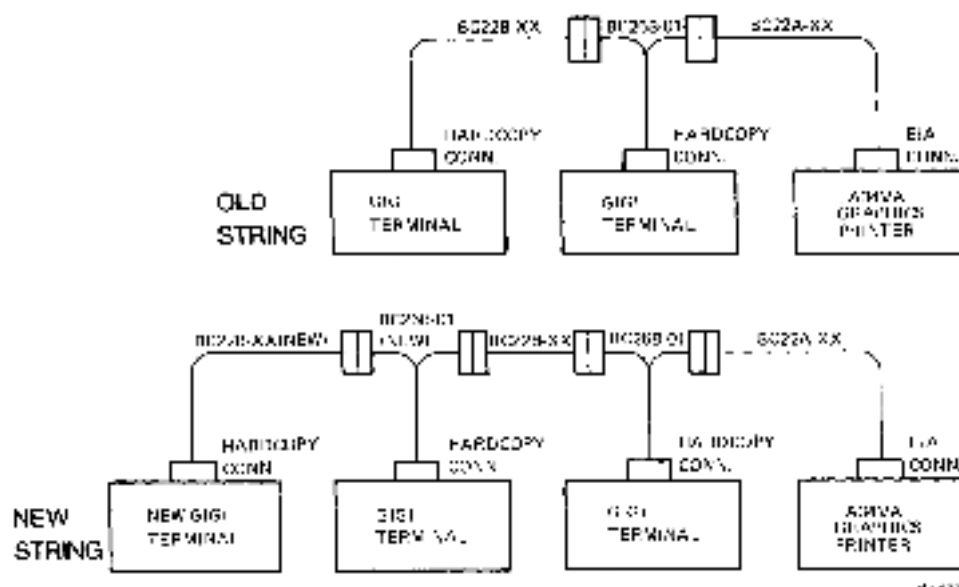

Figure 2-11 Adding a Terminal to a Multiterminal String
2.5.3.2 Adding a Terminal to a Multiterminal String -- Use the following procedure if one or more VK100 terminals are connected to the LA34VA graphics printer. Figure 2-11 shows a simple diagram of this configuration.